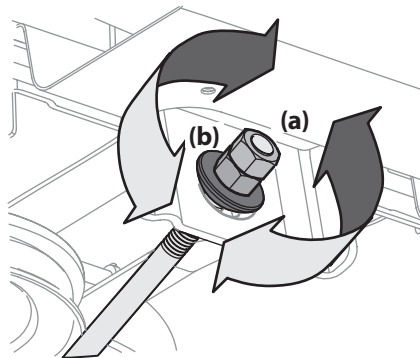

Figure 4-6
4. Using a wrench, raise or lower the left side of the deck by turning the adjustment gear (b). See Figure 4-6.
5. To raise the front of the deck, remove the end cap, loosen the outer nut (a) then tighten (thread inward) the inner nut (b) against the front hanger bracket. See Figure 4-6. When proper adjustment is achieved, re-tighten the outer nut (a) and replace the end cap.